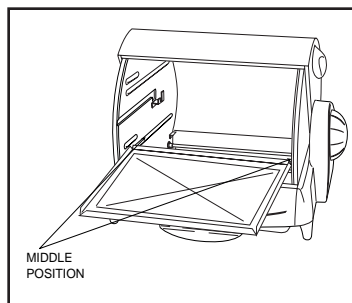

Figure 9
2. The Baking Sheet can be used in the **middle position only**. See Figure 9. Slide Baking Sheet into Rotisserie Oven at middle level as shown. When using the Wire Rack for baking, be sure the two cross wires are on the bottom.